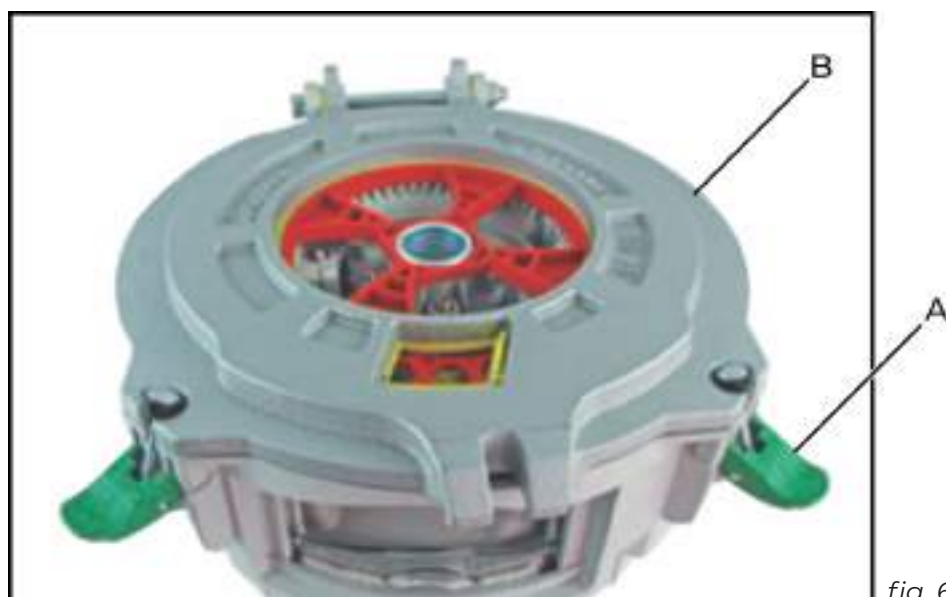

fig. 60
5- Feche a contra base (B) (fig. 60), e aperte as travas (A).